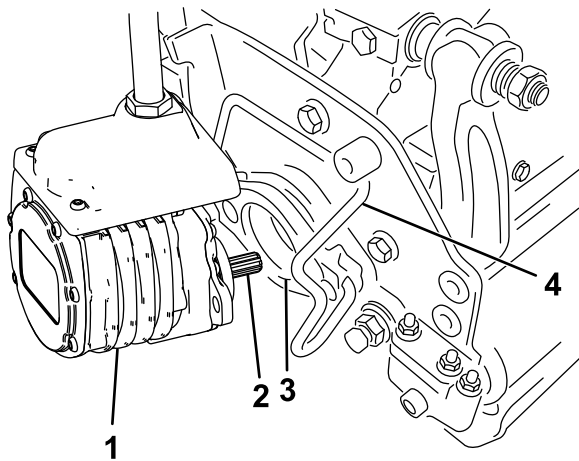

Figure 56
6. Coat the spline shaft of the cutting unit motor with clean grease (Figure 56).
7. Insert the motor into the left side of the cutting unit (as viewed from the operator's position) and pull the motor retaining bar on the cutting unit toward the motor until you hear a click from both sides of the motor (Figure 56).